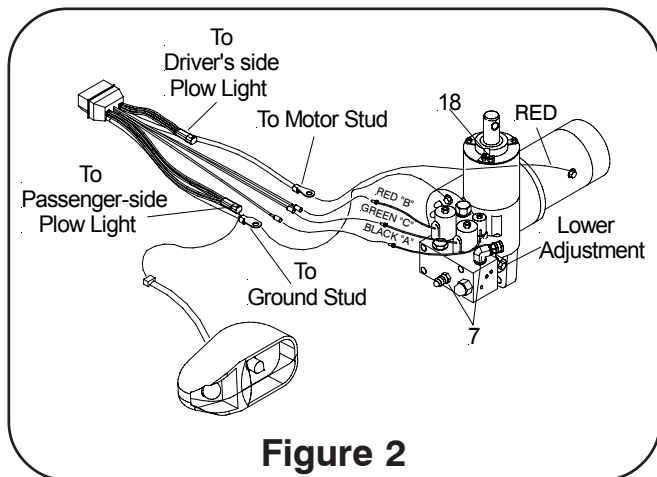

Figure 2
- A. Remove shipping plug from filler hole and install Relief Valve Kit (18). Tighten to 100-125 in. lbs.
- C. Install Black Hydraulic Cover (2) before installing the Lift Assembly (1) to the Lift Frame. Begin by sliding the Hydraulic Cover (2) down over the Lift Ram. Slide the cover carefully over the motor, do not force or stretch the Hydraulic Cover (2) it will fit comfortably over all parts of the Hydraulic Unit (1). Feed the three coil wires (red, green and black) through the slotted hole in the Hydraulic Cover (2). Guide the Hydraulic coupler weather cap (9a) and plug (9b) through the holes in the cover. Snap Cover together. **Caution:** Care should be taken with the installation and or removal of the Hydraulic Cover, including partial removal when repairs are performed on the Hydraulic Lift Unit. Tearing of the Hydraulic Cover for any reason will not be covered under the Meyer or Diamond Warranty.
- D. Install the Female socket (11) of the Harness Plug assembly. Attach power cables to the Hydraulic Lift Unit (1). Attach the red (+) cable to the motor stud. Guide the black (-) cable through the slot in the cover, pull cover back to expose the grounding boss. Attach ground cable to the base using bolt (19) and lockwasher (26). Note: Place lockwasher (26) between cable terminal and base so it bites into paint for proper ground. Connect the red, black and green wires from unit solenoids to the red, black and green wires coming from the Female Socket (11). As per Figure 2.
- E. Install E-60H Lift Assembly (1) to Lift Frame (using bolts supplied in the mounting carton), with the Electric Motor toward the left hand side (Driver's side); attach the lift ram to the Lift Arm.
Connect both male ends from the snow plow light to the female ends on the Female Socket (11). As per Figure 2.